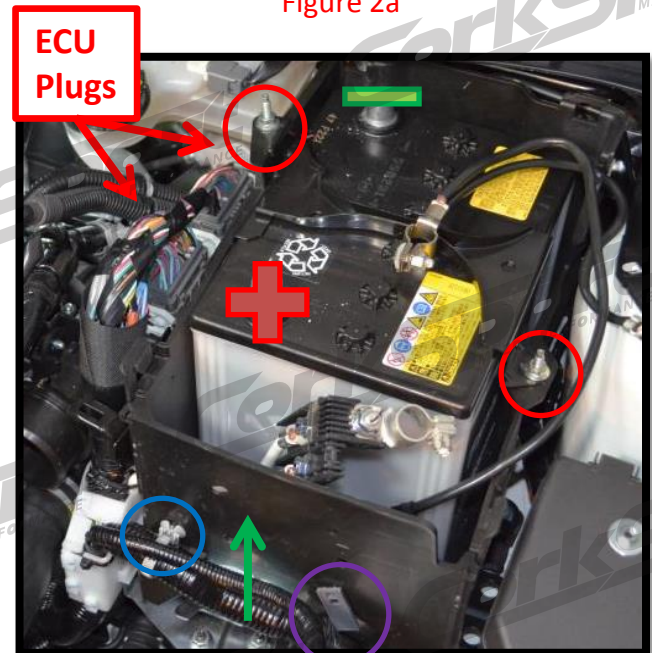
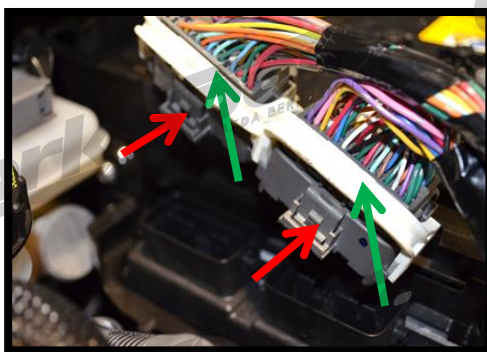

Figure 2b
Figure 2c
- b) Disconnect the battery. Refer to Figure 2b for negative (-) and positive terminals (+). Disconnect the negative terminal of the battery first before the positive terminal.
- c) Remove the two 10mm nuts for the battery tie down bracket (Shown with red circles in Figure 2b).
- f) Disconnect the ECU plugs by pushing on the tab (Red Arrow in Figure 2c) and pulling the white lock upward simultaneously (Green Arrow in Figure 2c).
- g) Install the ECU connectors** and latch the cam locks to seat the connectors into the ECU. Install the ECU cover over the connectors (shown in **Figures 2b & 2c**).
- k) Install the front cover onto the battery box and snap the wiring harness clips into place (shown in **Figures 2b**) Finish by installing the battery box top.
- b) **Disconnect the battery**. Disconnect the battery terminals with a 10mm end wrench. Refer to Figure 2b for negative (-) and positive terminals (+). Disconnect the negative terminal of the battery first before the positive terminal. Terminals shown with symbols in **Figure 2b**.
- c) **Remove the two 10mm nuts for the battery tie down bracket** (Shown with **red circles** in **Figure 2b**).
- e) **Remove the front battery box panel**. Remove the MAF wiring harness clip (**Blue Circle Figure 2b**), and negative battery cable clip (**Purple Circle Figure 2b**), from the front battery box panel using needle nose pliers to compress the clips on the inside of the battery box. Then slide the panel upwards and remove it. (**Green Arrow** in **Figure 2b**)
- f) **Disconnect the ECU plugs** by pushing on the tab (**Red Arrow** in **Figure 2c**) and pulling the white lock upward simultaneously (**Green Arrow** in **Figure 2c**). Refer to **Figure 2b** for location of ECU plugs and **Figure 2c** for close ups.
g) Install the ECU connectors and latch the cam locks to seat the connectors into the ECU. Install the ECU cover over the connectors (shown in **Figures 2b & 2c**).
k) Install the front cover onto the battery box and snap the wiring harness clips into place (shown in **Figures 2b**) Finish by installing the battery box top.